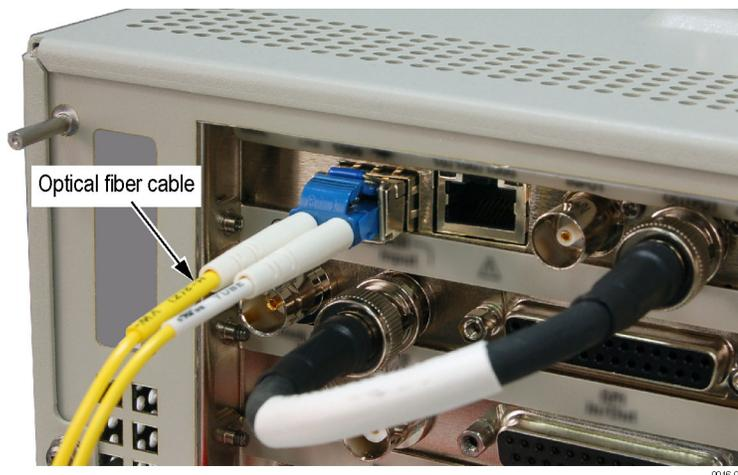

Figure 3-10: Attaching an optical cable to the SFP module.
3. Remove the optical port plug and insert the optical fiber cable into the SFP module as shown in the following figure. (See Figure 3-10.) When pushed in fully, the cable connector latches into position. Retain the optical port plug for later use when you need to remove the SFP module from the instrument.